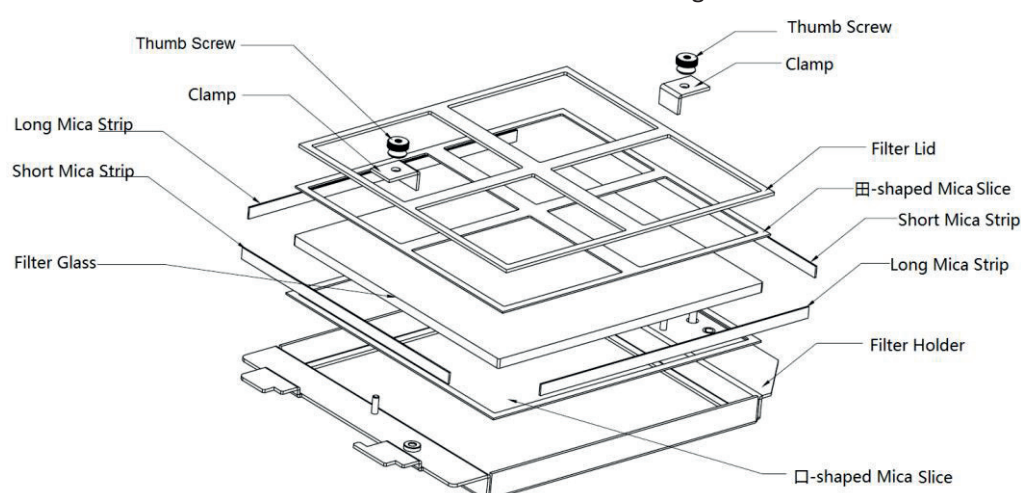

Figure2
4. Release thumb screws and detach the filter. Remove the filter glass out. Refer to figure 2.